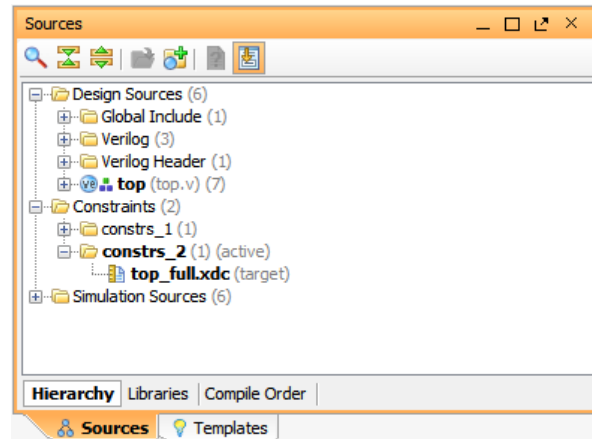

Figure 4: Sources window
1. In the Sources window, **expand** the **Constraints** folder to ensure `constrs_2` is active, as shown in Figure 4.